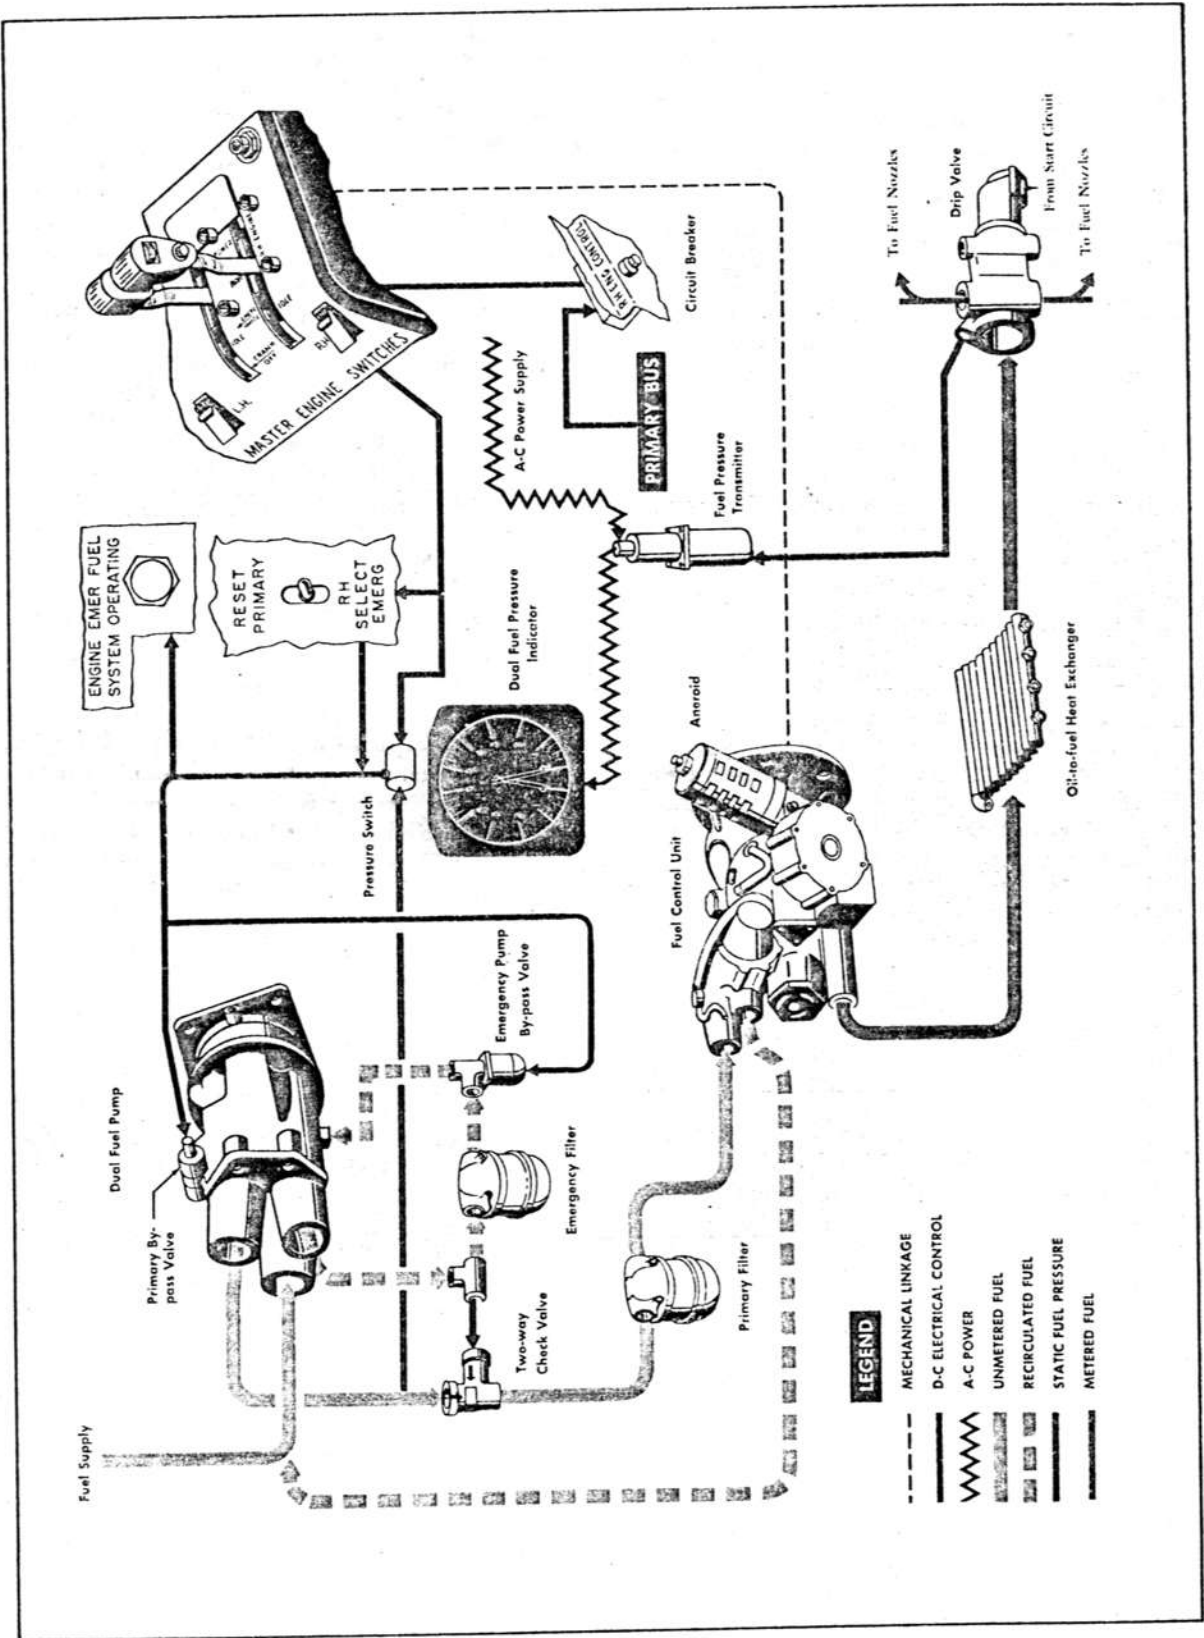

Figure 1-5. Engine Fuel System Schematic
**GENERAL.** The engine fuel system (figure 1-5) performs the following functions: